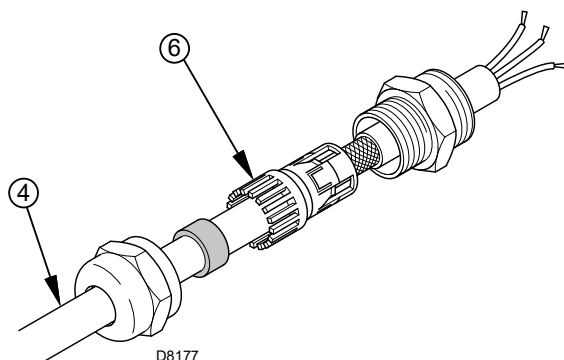

Fig. 22
- Shield the cable 4) running from the VSD (inverter), as shown in Fig. 22 and using the coupling 6);